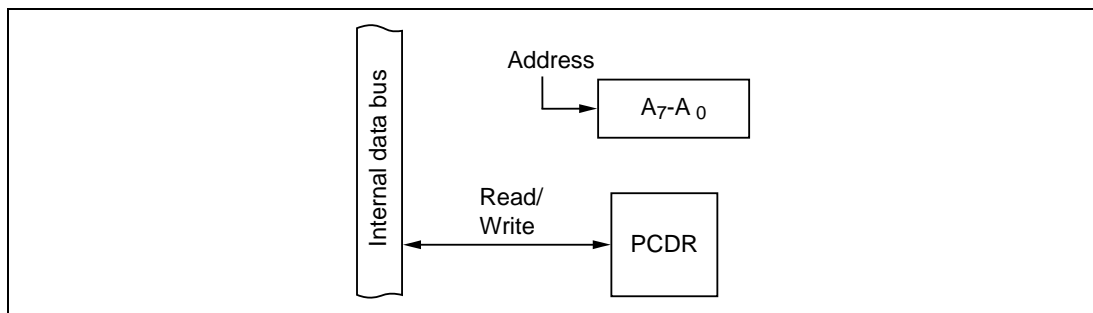

Figure 10-90 Address Bus (Modes 1 to 6)
(4) Address Bus (Modes 1 to 6): Figure 10-90 shows a block diagram illustrating the address-bus function. Table 10-67 indicates register read/write data. When port C is used as an address bus, values written in the port C data register (PCDR) have no effect on the bus lines. When read, PCDR returns the value written in PCDR.